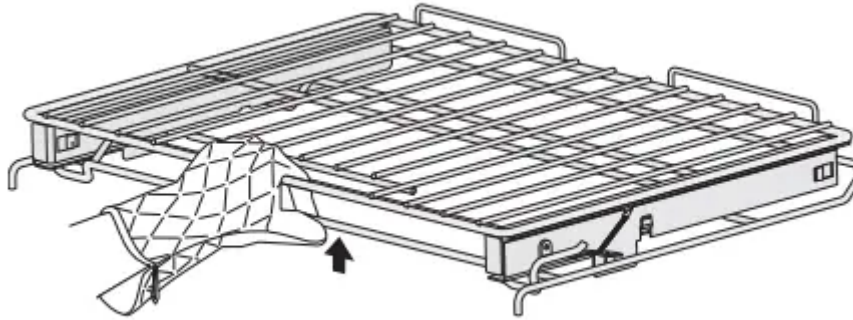

Figure 2: Grasp handle and lift up on bar
- To remove - Using one hand, reach through handle opening and lift up on the release lever located across the lower front of the rack as shown in Figure 2.